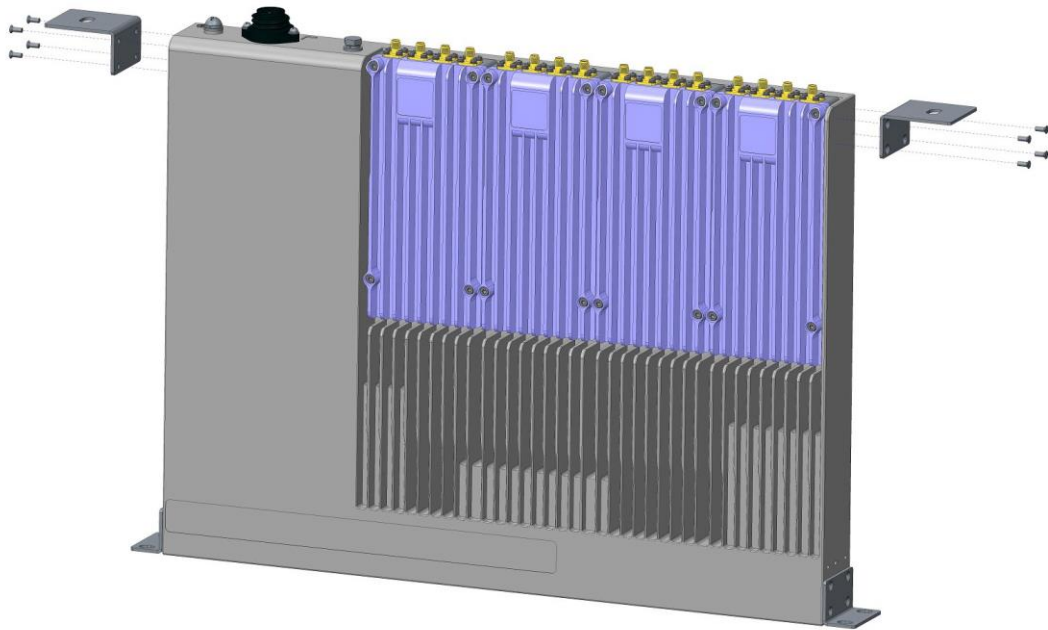

Figure 6-6 Step 1 of Suspension Installation
1. Fasten two hangers to the sides of device with 8 M3\*6 screws. See Figure 6-6 for details.